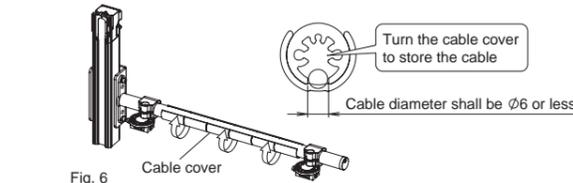

Fig. 6
- After fixing the Muting sensor, turn the cable cover to store the cable in the groove of the arm, and then replace the cable cover. (Fig. 6)